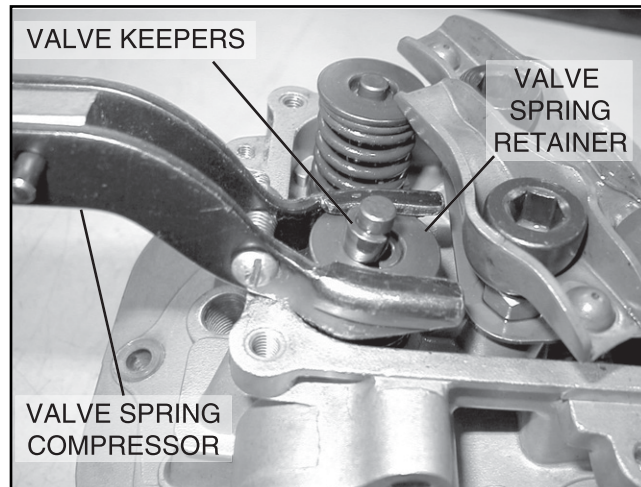

Figure 5-5. Removing Retainers
2. Hold down valve spring retainer by hand or with a valve spring compressor (Figure 5-5). Remove the following: